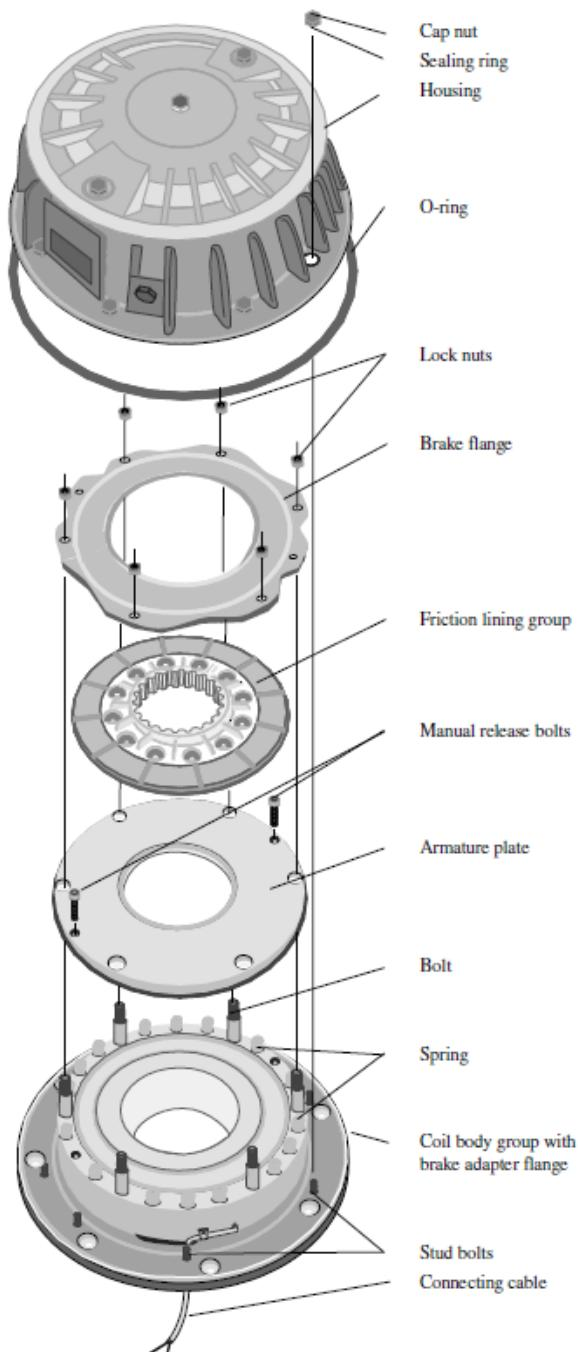

Figure 7-7: Brake (inner parts)
- the friction lining group must be replaced (see Figure 7-7).
Procedure for the replacement of all three groups (see Figure 7-7):
The friction lining group consists of (see Figure 7-7):
Remove brake flange and replace (see Figure 7-7). Dispose of old brake flange.
The brakes are spring loaded by a number of (helical steel) pressure springs (see Figure 7-7), located around the circumferences of the coil body group.